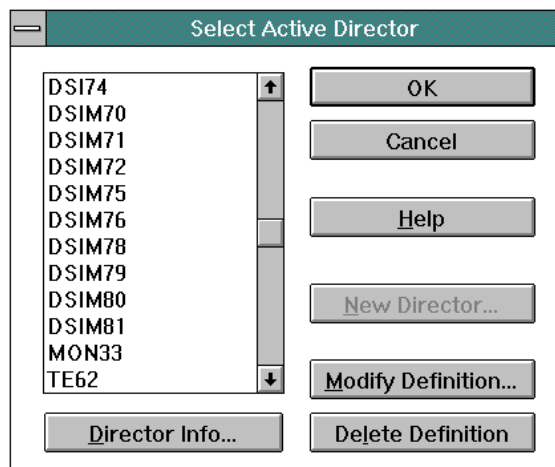

Figure 195. *Select Active Director Dialog Box*
1. At the Director Console, select the *Open Active Configuration Matrix* option from the *File* menu. The *Select Active Director* dialog box appears (Figure 195).